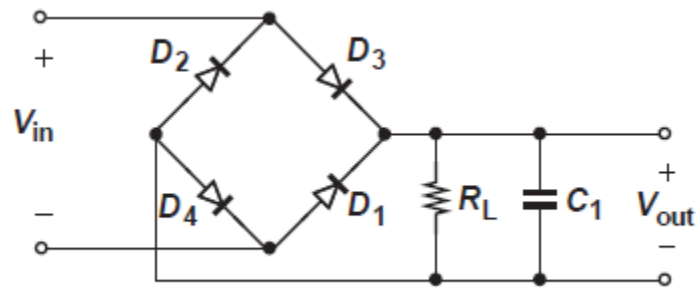

Figure 8 Full wave with capacitor load
1. Connect the circuit as shown in Figure8.